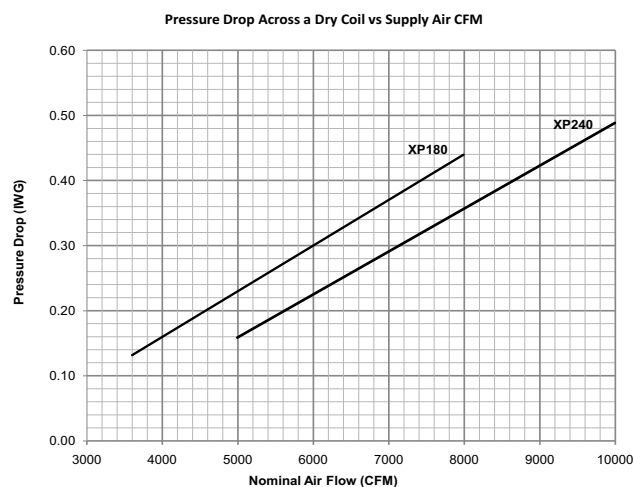

Figure 19: Pressure Drop Across A Dry Indoor Coil Vs. Supply Air CFM For All Unit Tonnages
4. Knowing the pressure drop across a dry coil, the actual CFM through the unit can be determined from the curve in Pressure Drop vs. Supply Air CFM Figure 19.